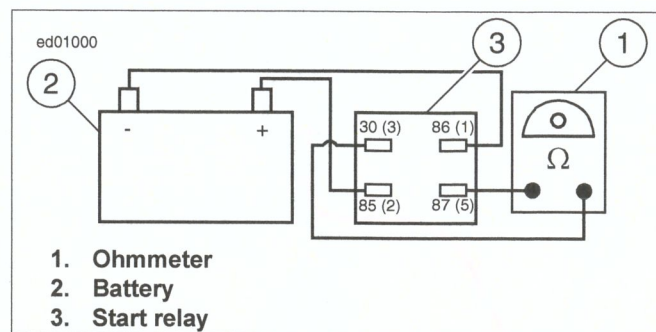
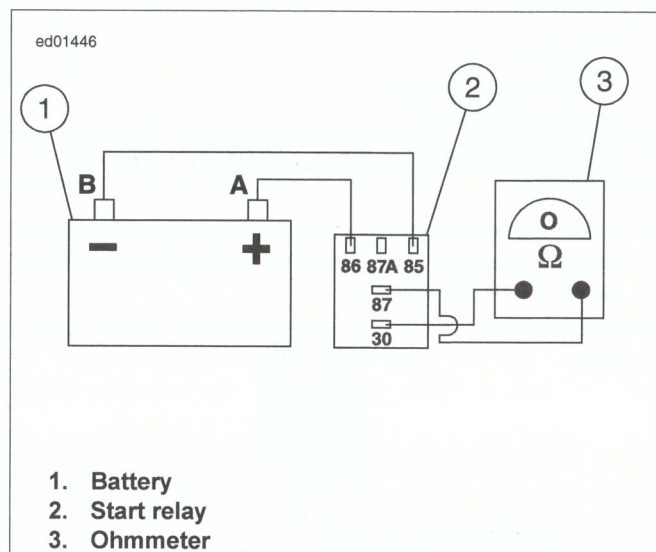

Figure 1-14. Four Terminal Relay Test
Figure 1-15. Five Terminal Relay Test
2. See Figure 1-14 and Figure 1-15 to energize the relay. Connect relay terminal 85 to the negative battery terminal and relay terminal 86 to the positive battery terminal.